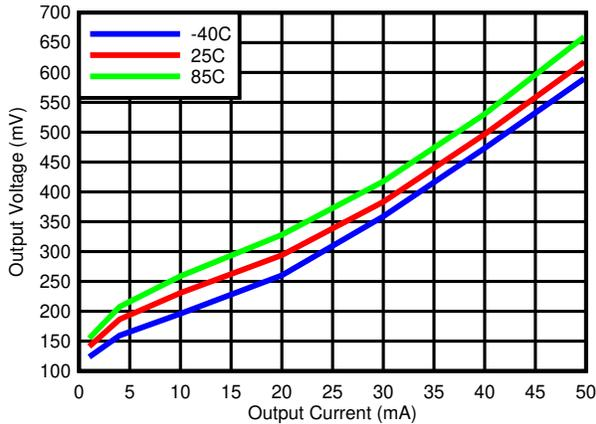
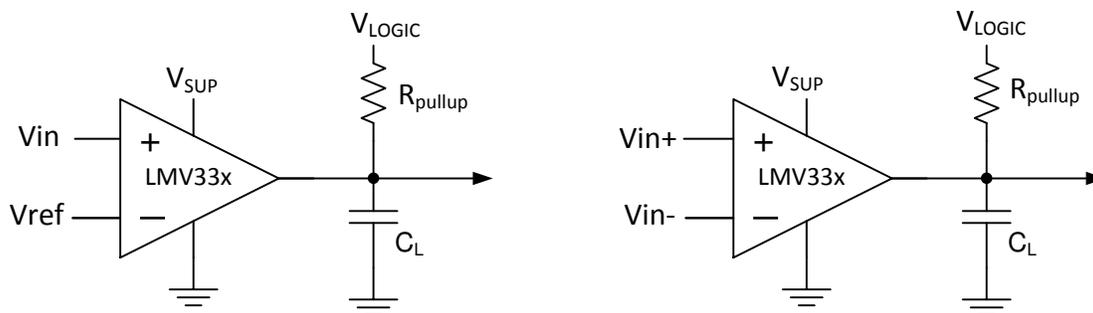

Figure 5-3. Output Voltage vs Output Current
Figure 7-1. Typical Application Schematic
The output consists of an open drain NPN (pull-down or low side) transistor. The output NPN sinks current when the negative input voltage is higher than the positive input voltage and the offset voltage. The V_{OL} is resistive and scales with the output current. Please see Figure 5-3 for V_{OL} values with respect to the output current.
Output current is determined by the pull-up resistance (R_{pullup}) and V_{logic} voltage, refer to Figure 7-1. The output current produces a output low voltage (V_{OL}) from the comparator. In which V_{OL} is proportional to the output current. Use Figure 5-3 to determine V_{OL} based on the output current.
- R_{CE} can be determine by taking the slope of Figure 5-3 in it's linear region at the desired temperature, or by dividing the V_{OL} by I_{out}